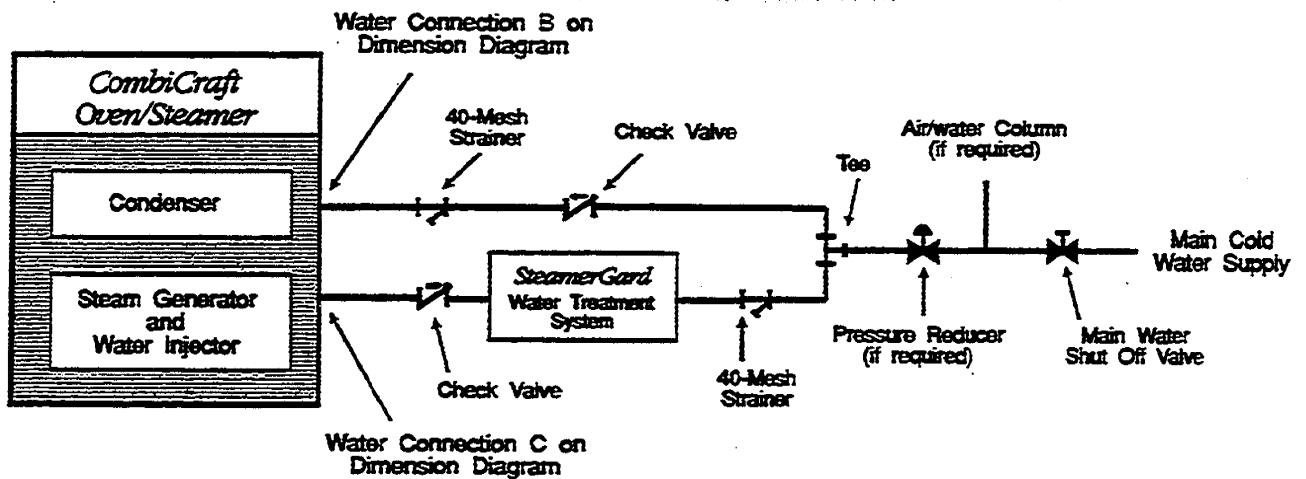

Figure 2-9. Water Supply Lines with a SteamerGard
- c. When installing a water supply system with a SteamerGard, Cleveland Range recommends the plumbing layout illustrated in Figure 2-9.
- a. If the CombiCraft is installed with a SteamerGard, refer to Figure 2-9, and the SteamerGard manual for detailed instructions.